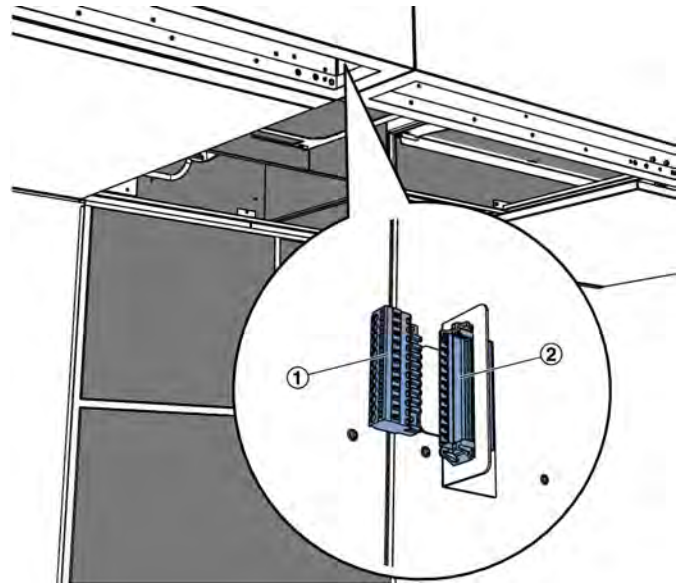

Fig. 23: Establish electrical connections
21. ▶ Insert the plug (Fig. 23 /1) into the socket (Fig. 23 /2) of the air outlets.